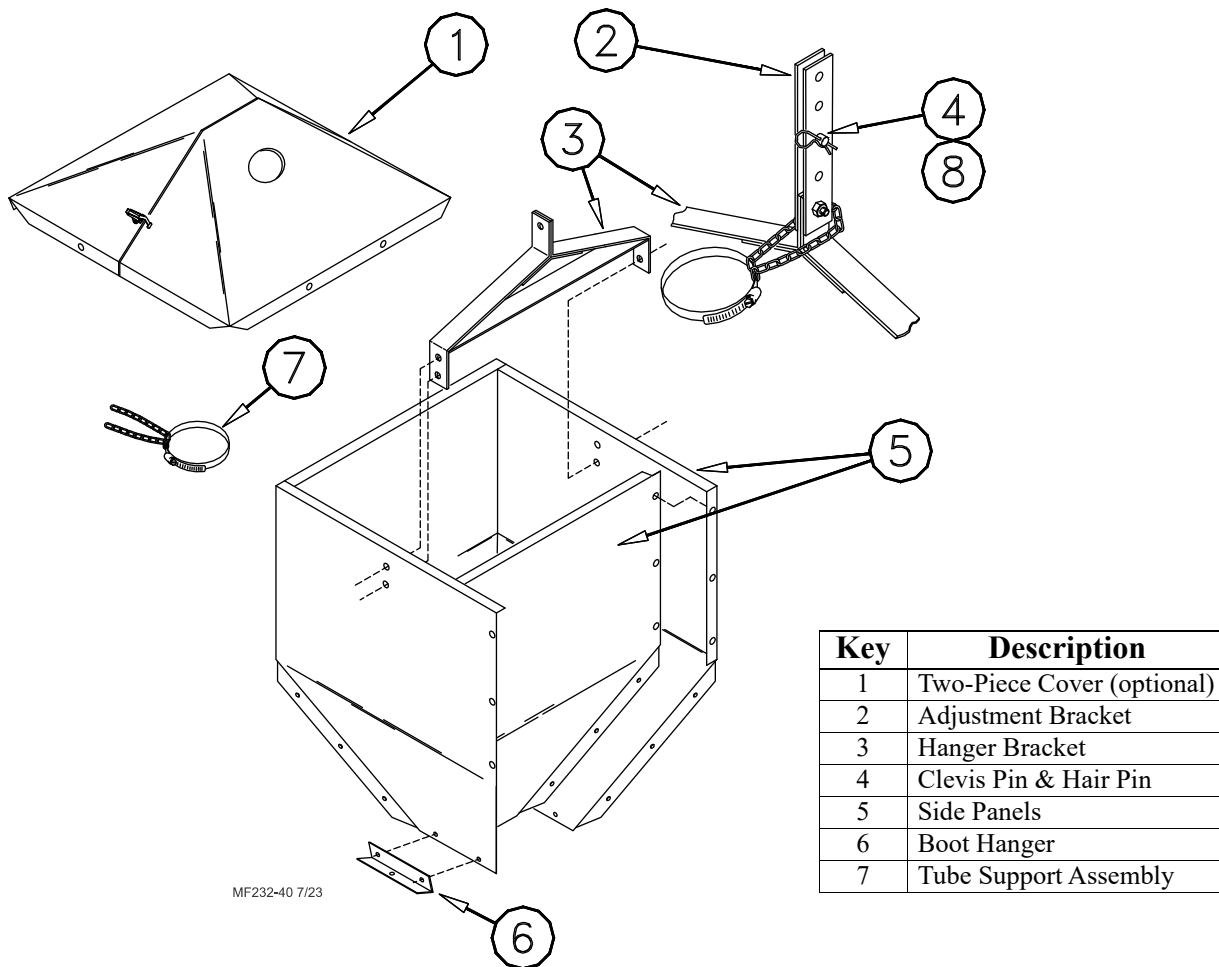

Figure 10. Hopper Assembly Procedure
1. Loosely, assemble the 200# Hopper Side Panels, as shown in **Figure 10**, using 1/4-20 bolts and 1/4-20 hex nuts (supplied in Hardware Package). The Hopper should be assembled so that the "CHORE-TIME" decals are on opposite sides of the hopper.
2. Secure the Boot Hangers to the bottom of the hopper, using 1/4-20 hardware, **see figure 10**.